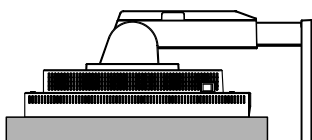

Figure S.1
1. Lay down the unit with caution and face down the screen of the unit on a flat material (**Figure S.1**).